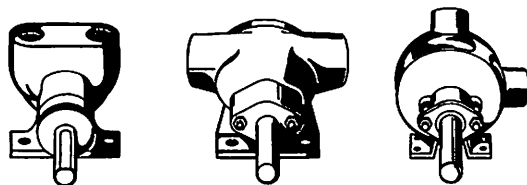
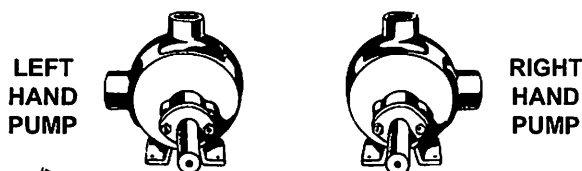

FIGURE 1
FIGURE 2
3. **Port Arrangement** - since the pumps have different port arrangements depending on the model, port location should be checked before starting the installation. The ports may be upright, opposite or at right angles to each other, see Figure 1. The right angle ports are normally right-hand, see Figure 2; some models are available with left-hand arrangements; still other models are available with the right angle ports located in any one of eight positions including right-hand and left-hand.